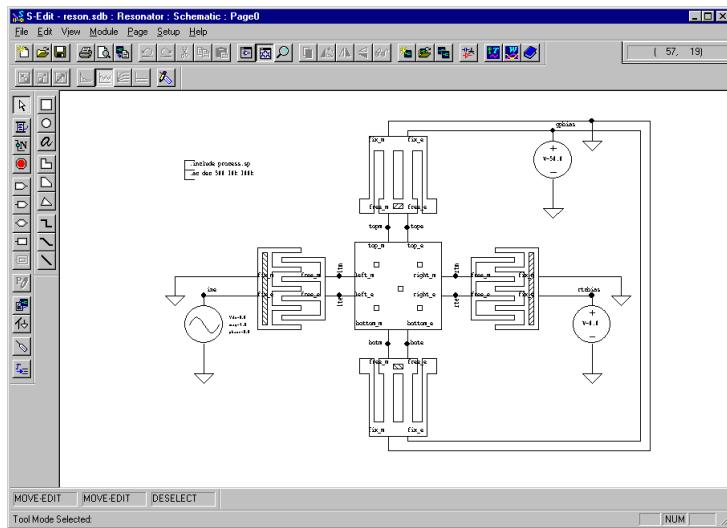

Figure 1: Schematic view of the complete resonator
The current (visible) file, module, page, and mode are named at the top of the title bar. The schematic view of the resonator appears in Figure 1.
- Compare your design to the finished design in Figure 1 to make sure you have placed the voltage sources correctly.
- Compare your wiring to the completed schematic presented in Figure 1.
- Compare your design to the finished design presented in Figure 1 to make sure the resonator has been wired correctly.